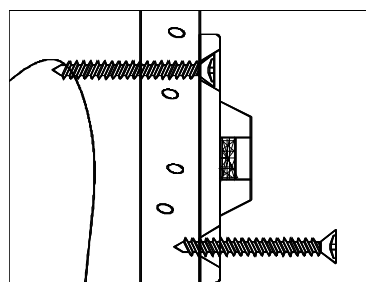
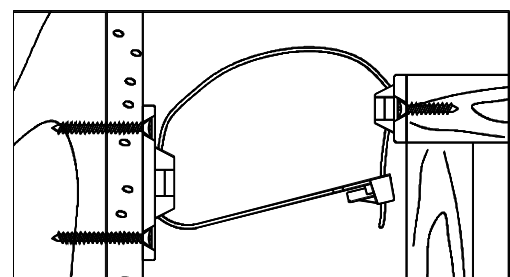

Figure 2
Figure 3
3) MOUNTING THE WALL-SIDE BRACKET: Position the wall-side bracket along the selected stud mark so that it will be adjacent the furniture-side bracket when the furniture item is moved to its final position. The wall-side bracket should be about ONE inch lower than the furniture-side bracket (See Figure 3). Use the TWO Long screws to secure the wall-side bracket to the wall. Remember to position the wall-side bracket vertically so that both screws will engage the selected wall stud (See Figure 2).